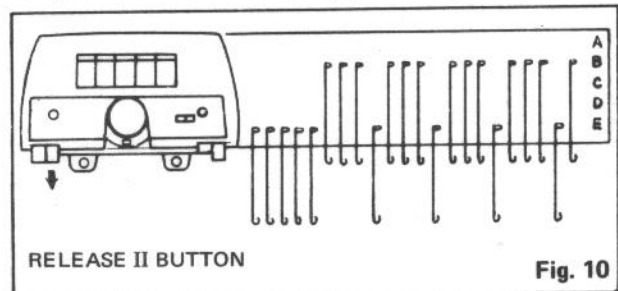
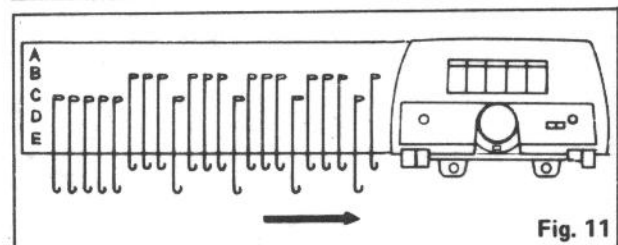

Fig. 10
Fig. 11
2. Select the needles according to the relative knitting diagram and knit one row. (Fig. 10)
3. Pass the knitting yarn underneath the needle next to the last needle knitted, and release the (II) button opposite to the sliding direction of the carriage as shown in Fig. 10. Knit one row, and the needles at E position will be pushed back to C position. (Fig. 11)